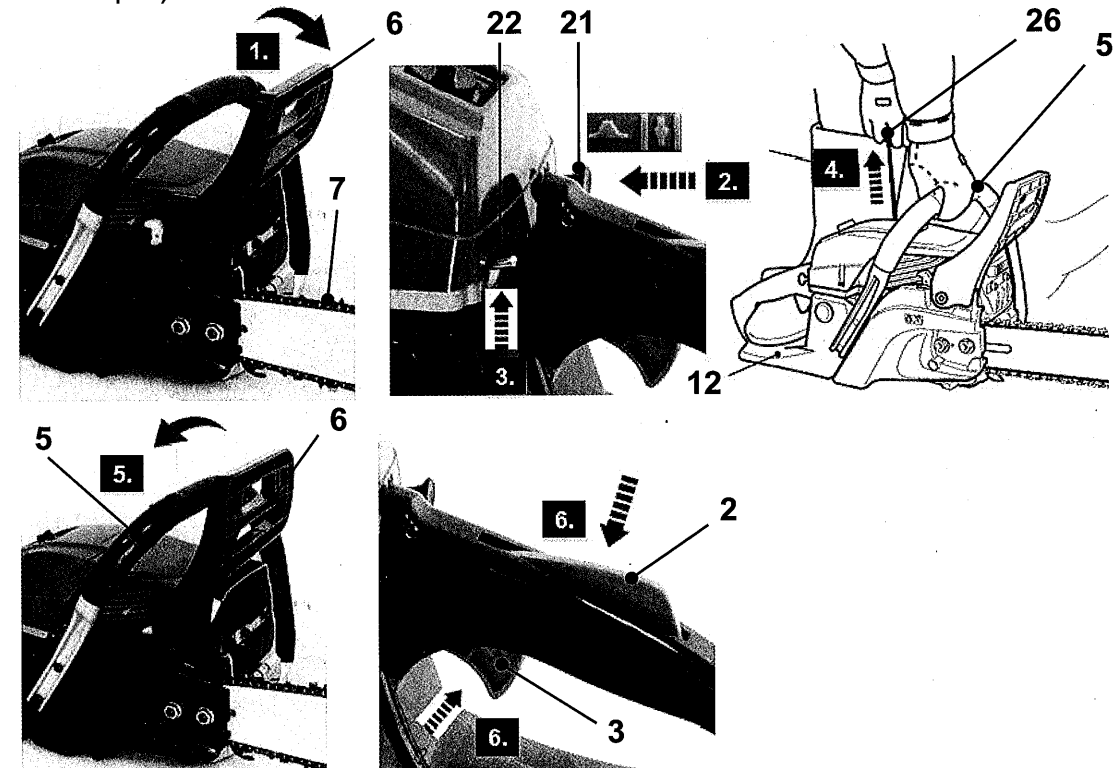

Fig. 23
1. Push front hand guard (6) forward (Fig. 23, step 1). The saw chain is now locked.
2. Ensure the choke (21) is at the OPEN position . Push the choke fully back to the OPEN position if necessary (Fig. 23, step 2).
3. Set the ignition switch (22) to upper position (ON position) (Fig. 23, step 3).
4. Hold the chain saw firmly on the ground with left hand on the front handle (5). Your thumb and fingers shall grasp the handle.
5. Place the right foot onto the rear hand safeguard (12) and step down.
6. Pull the recoil starter handle (26) lightly until you feel resistance then pull it rapidly (Fig. 23, step 4). Do it again until the engine starts.
7. Carefully pull the front hand guard (6) back toward the front handle (5) (Fig. 23, step 5).
8. Hold the product with the left hand on front handle (5) and the right hand on rear handle (1).
9. Press the throttle interlock (2) and then squeeze throttle trigger (3) (Fig. 23, step 6). The saw chain runs.